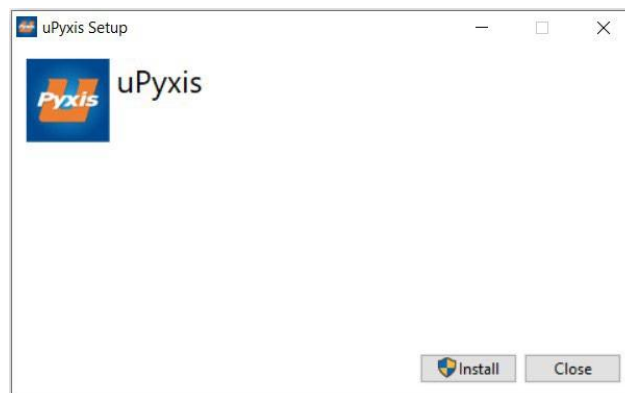

Figure 13. uPyxis® Desktop App installation
3. On **uPyxis®** Desktop App, click Device→ **Connect via USB-Bluetooth** (Figure 13).
4. If the connection is successful, the ST-722/ST-724/ST-725/728 and its Serial Number (SN) will be displayed in the left pane of the **uPyxis®** window.